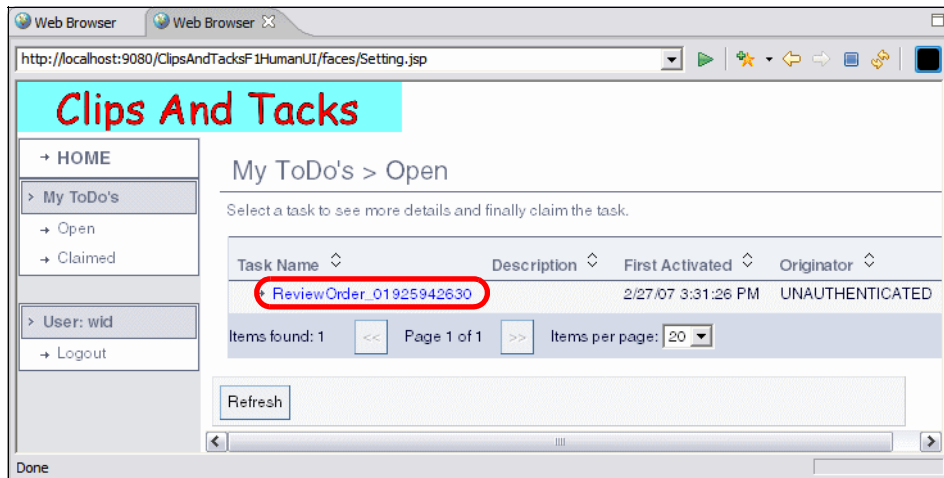

Figure 10-71 Selecting a task to perform
- ▶ Select the task that is required to be performed (Figure 10-71).